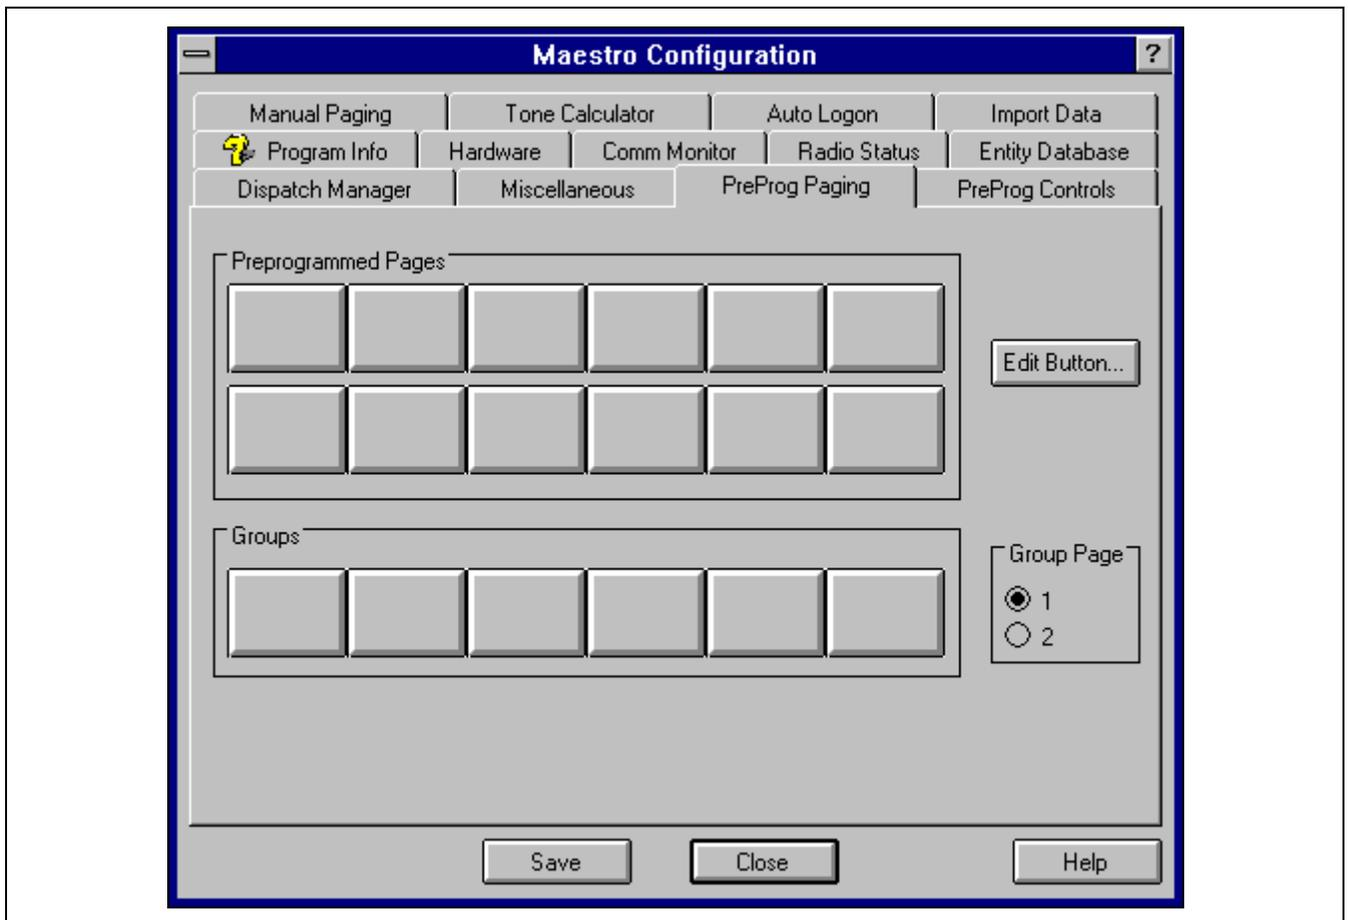
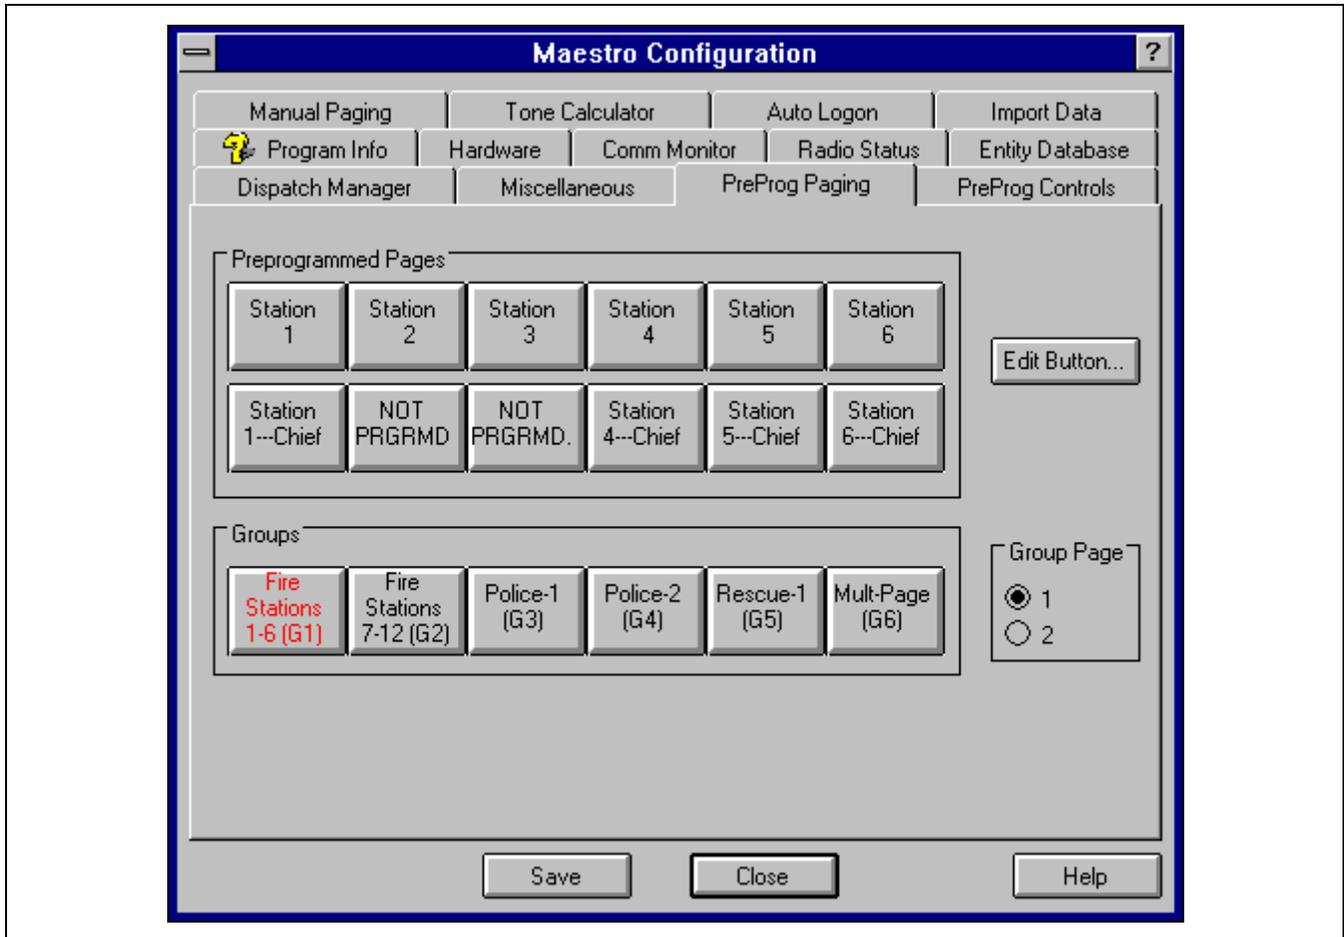
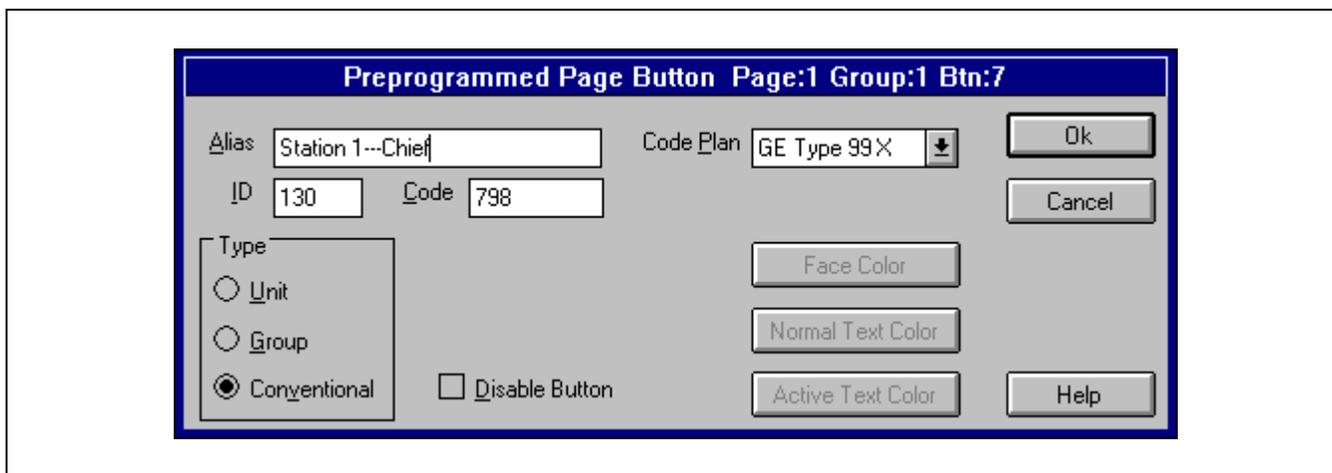

Figure 6-13 — Configuration Editor's Preprogrammed Paging Buttons Dialog Box
Figure 6-14 — Configuration Editor's Preprogrammed Paging Button Dialog Box (With Several Buttons Programmed on Button Group Page 1 and Button Group 1)
Figure 6-15 — Configuration Editor's Preprogrammed Paging Button Sub-Dialog Box (With Properties Defined for a Typical Button)
1. If necessary, from the PreProg Paging dialog box (see Figure 6-13 or Figure 6-14), click the Group Page option button which corresponds to the desired button group page. Two button group pages are available, each with 72 preprogrammable paging buttons.
2. Near the bottom of the dialog box, click one of the six (6) Groups select buttons which corresponds to the desired button group. Six button groups are available on each button group page.
4. Near the top of the dialog box, click one of the twelve (12) Preprogrammed Pages buttons which corresponds to the desired button for property definition.
5. Click <Edit Button...> to open the Preprogrammed Page Button sub-dialog box. See Figure 6-15. (Alternately, the desired button may be double-clicked to open this sub-dialog box.)
8. Click one of the three (3) **Type** option buttons to select the broadcast entity type.